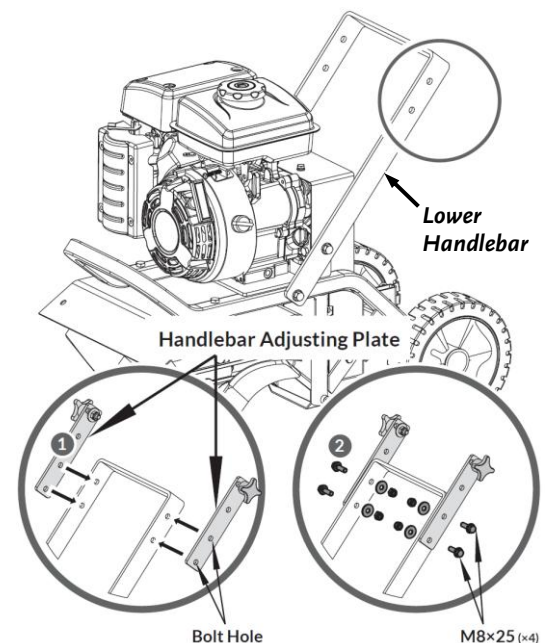

Figure 7
4. Install the two Handlebar Adjusting Plates to the Lower Handlebar with four M8×25 Bolts, M8 Washers, and M8 Nuts using two 13mm Wrenches (**Figure 7**).